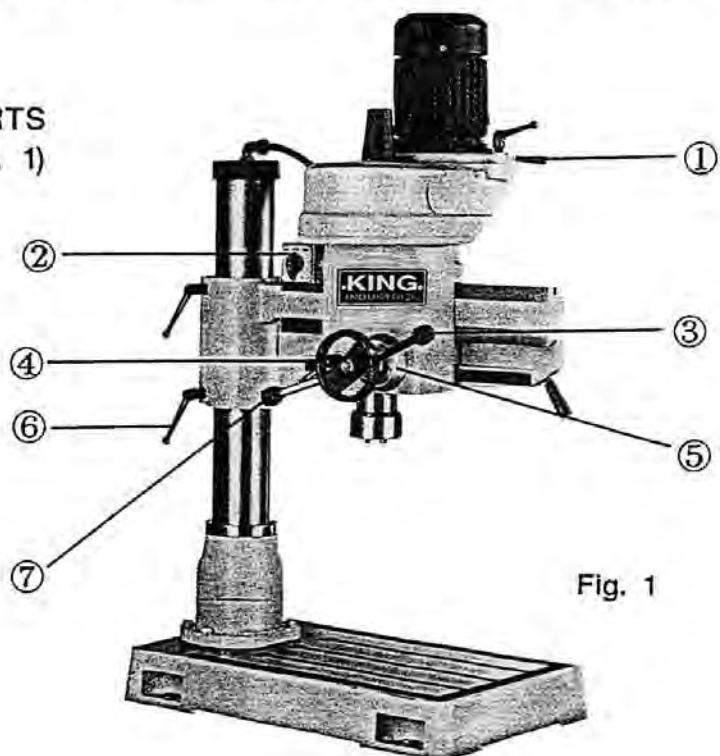

Fig. 1
- (1) Your machine has been coated with a heavy grease to protect it in shipping. This coating should be completely removed before operating the machine. Commercial degreaser, kerosene or similar solvent may be used to remove the grease from the machine, but avoid getting solvent on belts or other rubber parts.
- (2) After cleaning, coat all bright work with a light lubricant. Lubricate all points in Fig. 1 with a medium consistency machine oil.
- (3) Lubricating points as shown in arrows.
- (1) Grip (See Fig. 1)
- (2) Forward/Reverse switch
- (3) Handle rod for hand wheel
- (4) Hand wheel
- (5) Indicator
- (6) Lock handle
- (7) Rack handle rod